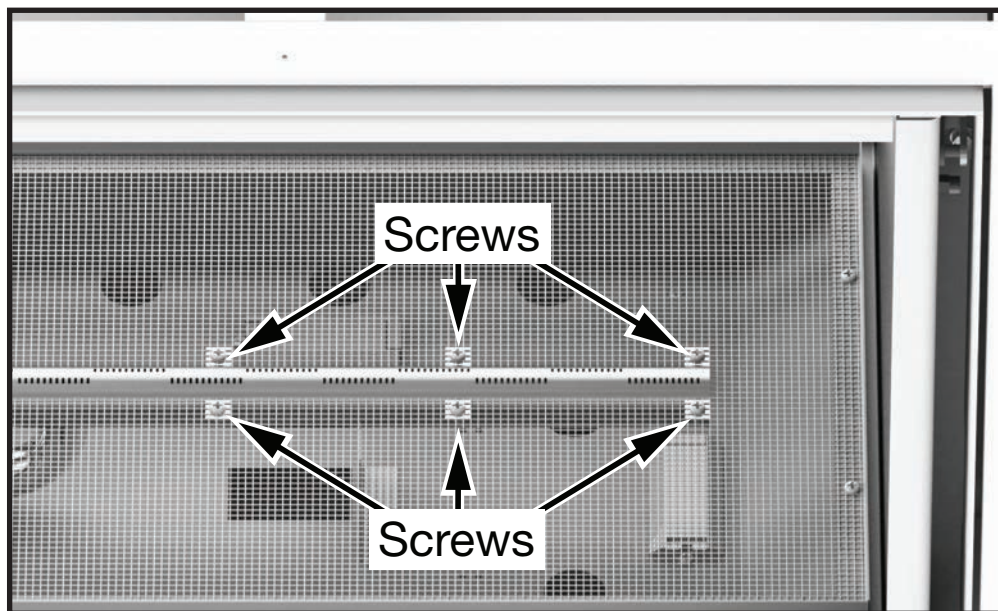

Figure 16: Glass media tray installation.
16. Secure the glass media tray to the burners with screws provided by screwing through the mesh to each small flange on the burners. There are 10 securing points for each burner (Figure 16).
2. If installed, remove the burner tray by removing the screws attaching the tray to the burners and side panels (Figure 16 on page 11) as well as the two screws on each end of the tray which are screwed into the side panels.